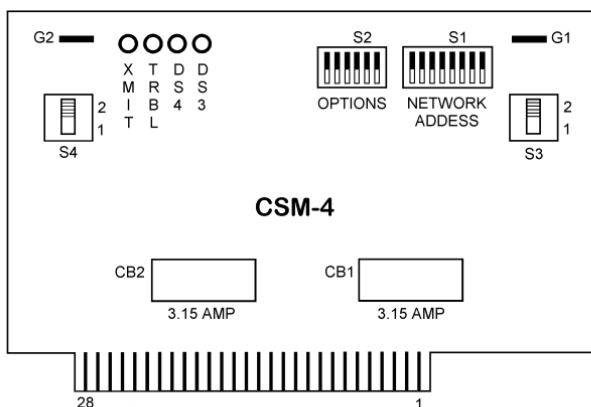

Figure 1
The CSM-4 has two diagnostic and two user programmable LEDs (See Figure 1). In addition, each circuit is equipped with transient and noise suppression.
The Network address is set on switch S1 (See Figure 1). See the CSG-M printout for the proper address. Use Table 1 to set the switches.
* See Figure 1